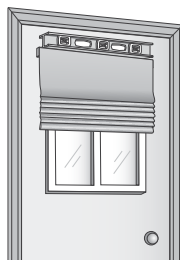

figure 10
3. Locate the pre-drilled holes in the headrail. An "Install Here" label will mark hole locations if headrail is fabric wrapped. Use a level to ensure it is positioned squarely. (figure 10).